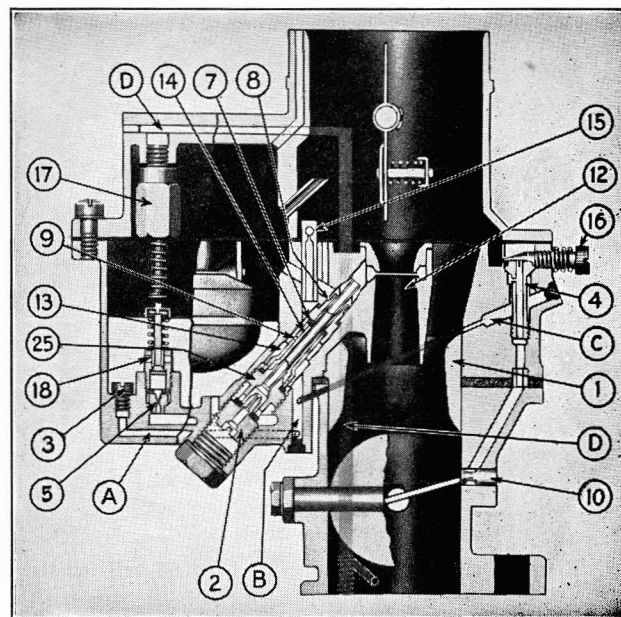
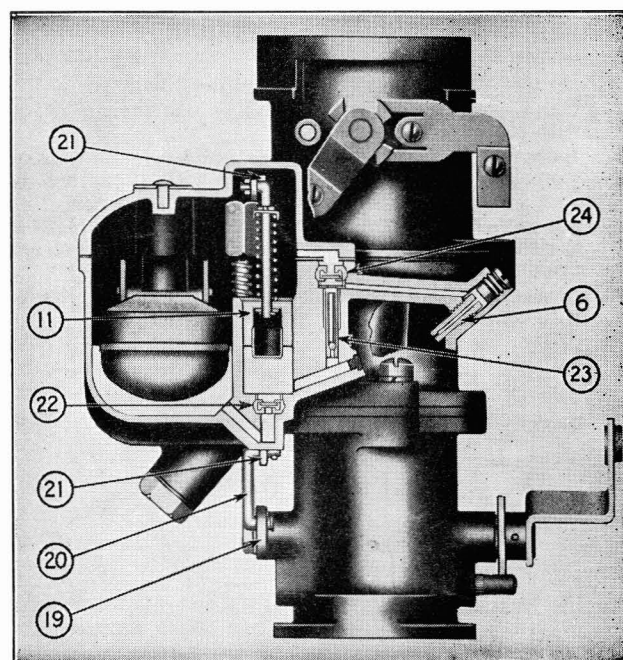

Figure 2
Figure 3
6. Remove pump lever nut and lockwasher (See 19 in Fig. 3) and loosen the lever. Remove bowl to barrel assembly screws and remove bowl from barrel and at the same time remove pump lever from the throttle shaft.
7. Remove pump link from pump rod. (20 and 21 in Fig. 3).
12. (For 23 Series.) Remove cap jet base retainer (25 in Fig. 2) using service tool C161-1. NOTE: In the 23 Series the cap jet base retainer holds the cap jet base, cap jet calibration and cap jet tip in place. (Remove cap jet tip gasket with a piece of wire with small hook on the end.)
16. Remove channel screw and accelerator jet (6 in Fig. 3).
17. Remove pump check valve (22 in Fig. 3) using service tool C161-5 after first bending the retainer lugs with a small screw-driver and removing the valve disc.
18. Remove air vent check valve (24) using service tool C161-5. NOTE: The pump refill check valve (23) ball, weight and retainer will now fall out if bowl is turned upside down.
- (a) Pump refill check valve seat (23 in Fig. 3).
- (b) Well vent tube (15 in Fig. 2).
- (c) Secondary venturi which is pressed into discharge nozzle (12).
- (d) Idle channel bushing (located in channel below the idle jet (4)).
24. Remove power jet vacuum piston assembly (17 in Fig. 2), using a $\frac{1}{16}$ " double hex thin type box wrench (C161-10).
28. See note A on last page, then remove throttle plate and shaft from throttle body as described. Do not disturb the priming hole plug (10 in Fig. 2).
2. Replace pump check valve assembly (22 in Fig. 3) using service tool C161-6. (For details of operation see Tool List.)
3. Place pump refill check ball on the seat (23, Fig. 3), place the weight on the ball and the retainer washer in position next, then
4. Replace the air vent check valve assembly (24, Fig. 3) using service tool C161-5. NOTE: This assembly is the same as the pump check valve assembly (22) but is installed with the opposite side up.
5. Replace accelerator jet (6) and channel screw.
6. Replace compensator jet (3 in Fig. 2) and gasket.
7. Replace power jet (5) with head up, followed by the copper gasket and the power jet valve. NOTE: Power jet valve should be firmly in place but not tight enough to crush the soft copper gasket. Use service tool C161-25.
8. Replace idle jet (4).
11. Install idling adjustment screw and spring (16) and adjust to one full turn open as a preliminary adjustment.
13. Connect pump link and lever assembly inserting the link (20 in Fig. 3) from the bowl side of the pump rod.
14. Place venturi in position with the cut out section at the discharge arm (1 in Figure 2).
19. Install new power jet vacuum cylinder assembly and gasket in cover assembly, using C161-10 service tool (17 in Figure 2).